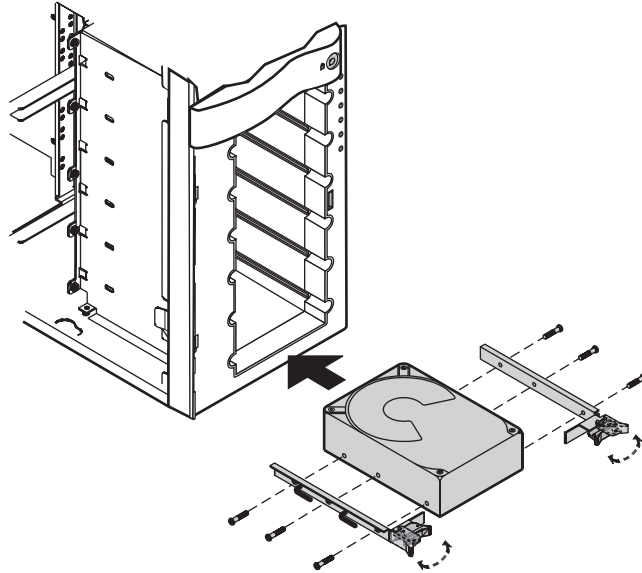

Figure 23: Installing an SCA Drive
6. Slide the drive into the bay until the connector makes contact with the SCA connector on the backplane (see Figure 23).